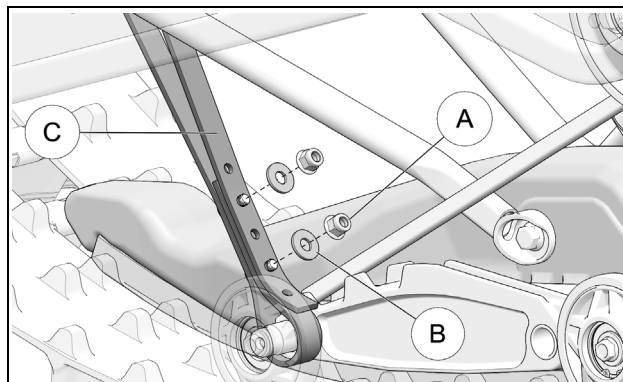

Figure 16
- Loosen and remove the two nuts (A) and washers (B) securing the Suspension Limiter Strap (C) assembly bolts. Figure 16.